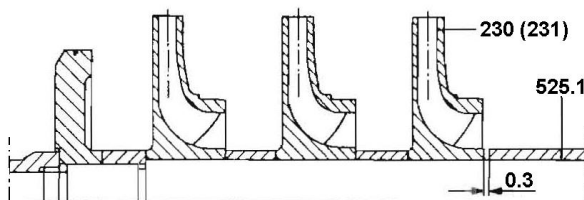

Figure 35 – Axial rotor clearance (sizes 40 and 50)
3. Screw the shaft protecting sleeve (524.2) onto the shaft and tighten. Check that the axial clearance between the impeller (230) and shaft protecting sleeve (524.2) is $0,3\text{ mm}$. Adjust if necessary by remachining the spacer sleeve (525.1) - see fig. 35.
Check the axial clearance of the rotor components before mounting the rotor. Slip the impellers, stage sleeves, balance disc and spacer sleeves (525.1/2) onto the shaft and tighten both shaft protecting sleeves. The axial clearance should be 0,3 mm (see Fig. 35) if necessary machine the spacer sleeve (525.1) to achieve this. This is generally necessary if replacement spacer sleeves have been fitted.